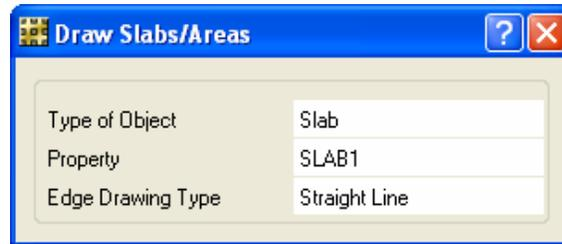

Figure 21 Draw Slabs/Areas form
- E. Click the **Draw menu > Draw Slabs/Areas** command to access the Draw Slabs/Areas form shown in Figure 21. If the Draw Slabs/Areas form covers part of the model, click on the blue title bar, hold down the mouse button, and drag it out of the way.